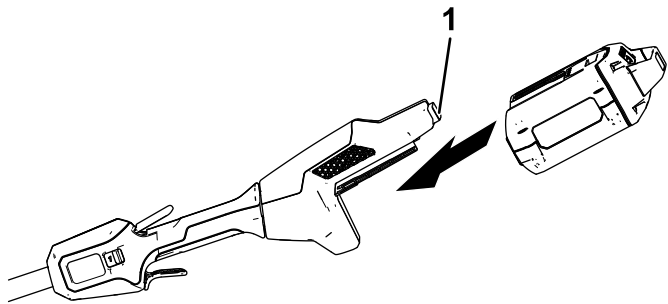

Figure 8
2. Aligned the notch of the battery on the tongue of the handle (Figure 8).
3. Push the battery into the handle until it clicks into the lock (Figure 8).